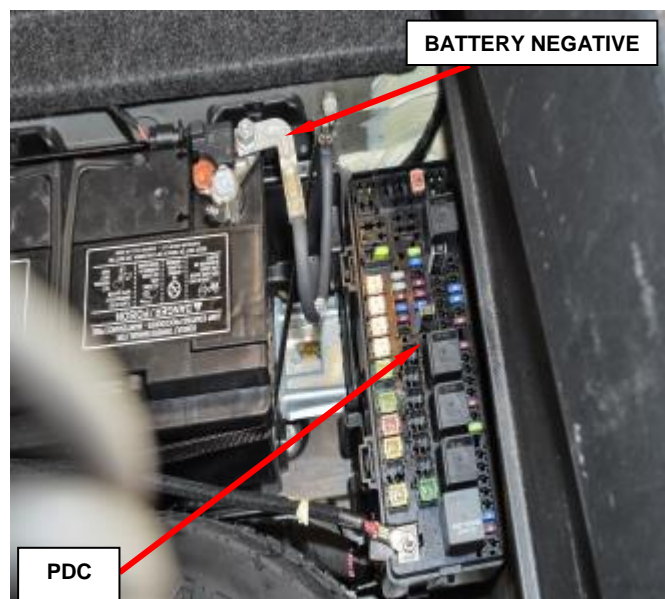

Figure 29 – Battery Negative
1. Disconnect and isolate the battery negative cable then remove the two Airbag Module fuses from the Power Distribution Center (PDC), see the PDC cover for the fuse locations. Wait two minutes for the system capacitor to discharge before further service (Figure 29).